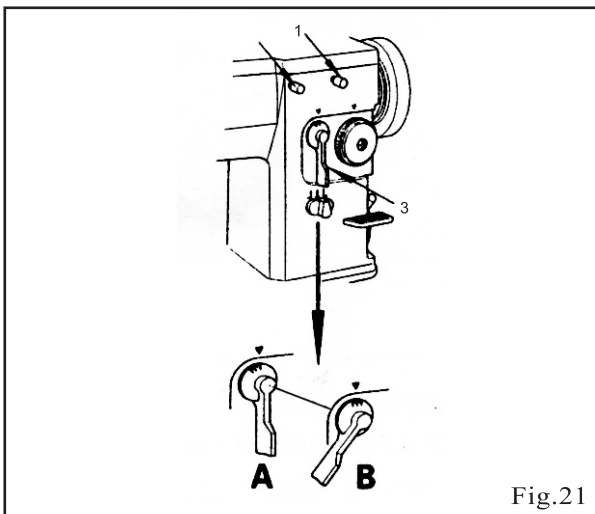

Fig.21
17. THE ADJUSTMENT OF HORIZONTAL DISTANCE (Fig.21)